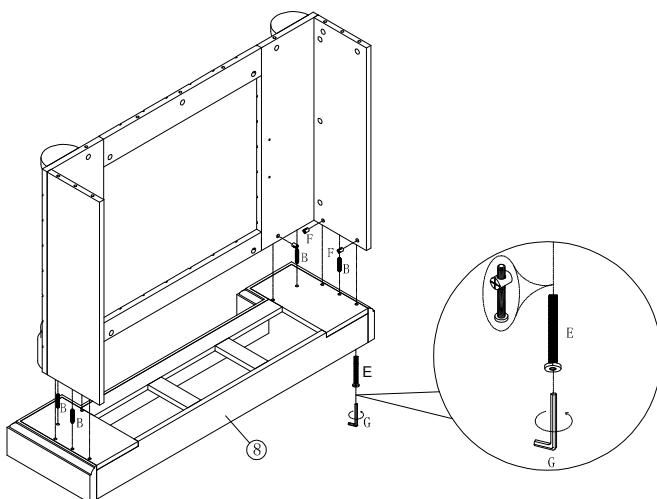
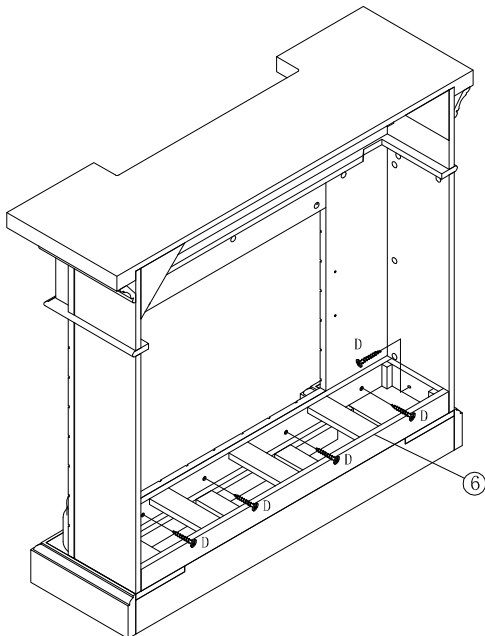

Figure 3
Figure 5
INSERT 4PCS WOOD DOWEL(B) AND 6PCS SOCKET HEXAGON SCREW(E) TO CORRESPONDING HOLES OF BOTOOM FRAME(8) AND PLACE THE ASSEMBLED UNIT OF FIGURE 5 ONTO BOTTOM PANEL UPRIGHTLY. THEN INSERT CAM-NUT (F) INTO CORRESPONDINIG HOLES, AND TIGHTEN (E) WITH SOCKET HEAD WRENCH (G); AS FIGURE3 SHOWN.